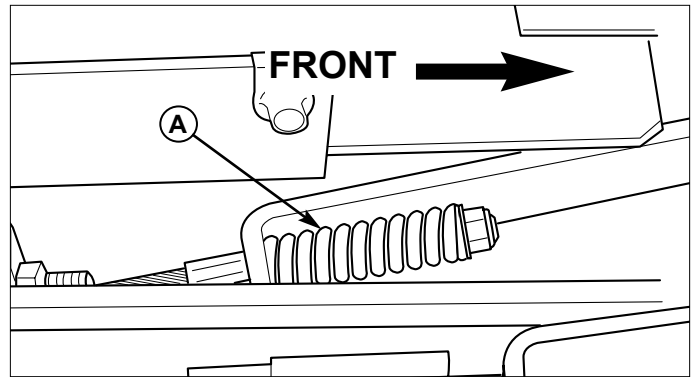

Figure 21. Parking Brake Adjustment
3. Locate the upper brake spring (A, Figure 21).